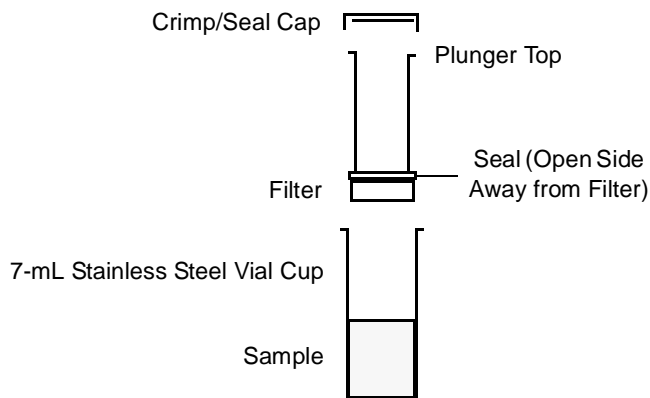

Figure 4-18 Changing the Filter in a Sample Filter Vial
1. Remove and discard the crimp/seal cap, using the 10-mL decapping pliers (Figure 4-18).